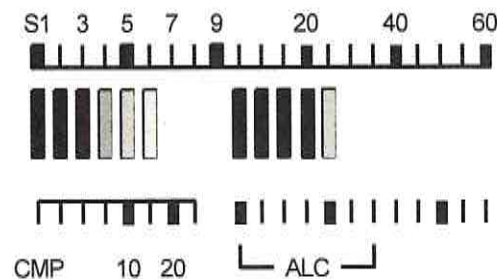

Figure 5-7. Compression and ALC meter display.
- While speaking into your microphone in a normal voice (use the mic PTT or tap **[XMIT]**), adjust **[KYR-SPT/MIC ⏏]** for a peak ALC reading of about 5 bars, with the 6th just flickering. (If you are in SSB +CW mode, you may have to tap **[KYR-SPT/MIC ⏏]** to display **MIC**.) While you are adjusting the mic gain, the SWR/RF display changes to the compression and ALC display shown in Figure 5-7. The ALC meter is actually acting like a VU (volume unit) meter. The onset of ALC is about the 5th bar so you should stay below that level. DO NOT turn up the microphone gain any higher – higher settings may cause splatter!
- To adjust the compression¹⁸, set the **TX CMP** menu to 10 – 20. VFO B area shows the compression level. About 10 dB or less is a good place to start. Exit the **TX CMP** menu, key your radio again and check the compression level by observing the CMP/ALC meter. You will want to do some on-the-air tests to confirm that your signal sounds OK. See Figure 5-7.